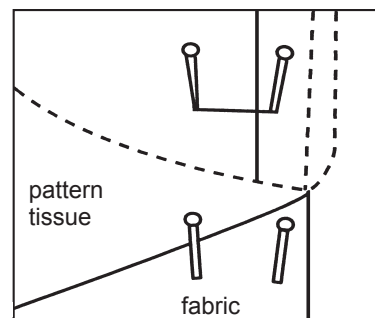

Figure 7
- Use transparent tape to mark where to begin and end and where to place the buttonhole (Figure 7).